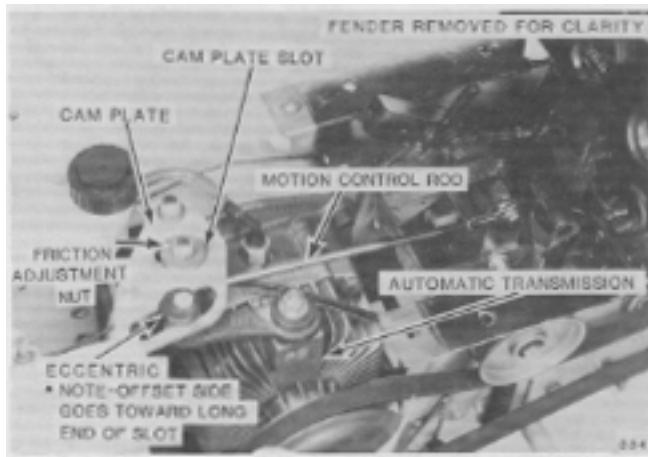

FIG. 10. Motion Control Friction and Neutral Adjustments
4. Slightly loosen lock bolt and turn eccentric with a wrench until wheels stop turning (Fig. 10). Turn eccentric in opposite direction until wheels start to turn, then set eccentric mid-way between these two positions.